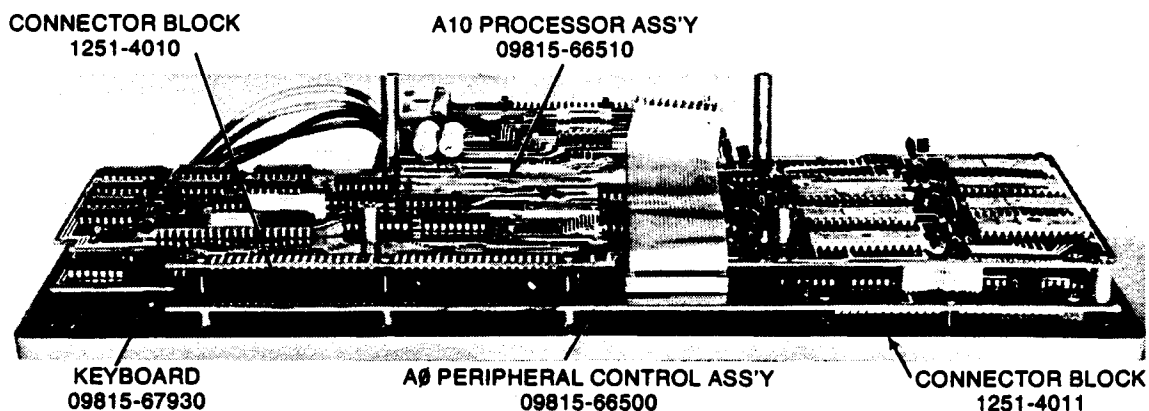

Figure 2-2. Removing the Processor Assembly
The processor is attached to the keyboard assembly. 5 long screws and 1 short screw hold the A10 Processor assembly to the keyboard assembly. Note that a connector block (see Figure 2-2) is positioned between the A10 Processor and the Peripheral Control Assembly (A0). This block must be correctly positioned when installing the A10 assembly.
- Remove the screws that hold the AØ assembly to the keyboard. Note that a connector block (see Figure 2-2) is positioned between AØ and the keyboard.
When putting the PC assemblies together, don't forget to put the connector blocks in between the assemblies; as shown in Figures 2-2 and 2-3.